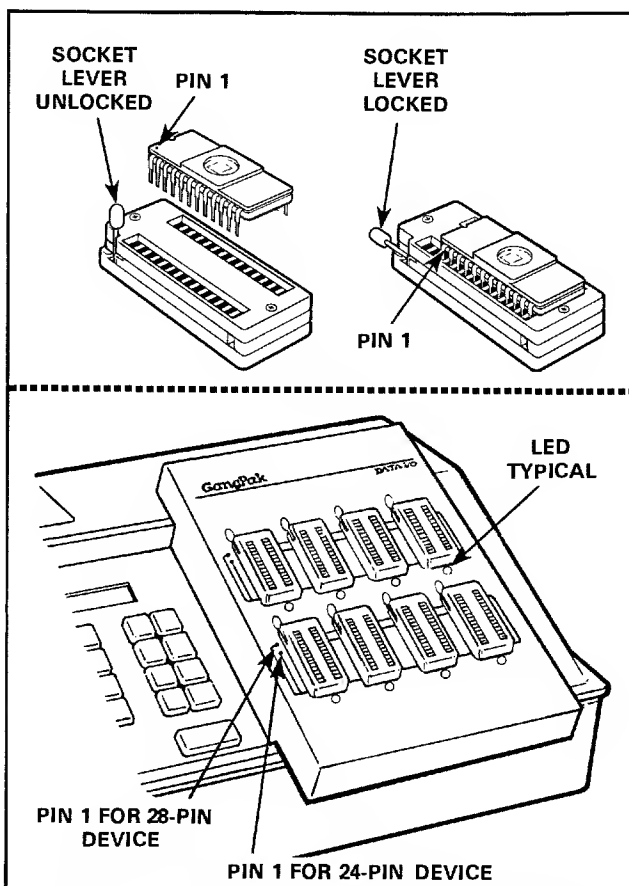

Figure 3-2. Device Installation (Multiuse Sockets)
3. Lift the lever on the side of the socket (see figure 3-2). The lever stays in the upright position.
4. Gently set the device in the socket. Be sure that pin 1 of the device is aligned with pin 1 of the socket as shown in Figure 3-2. If the socket has more contacts than the device has pins, insert the device so that the extra contacts are above the device; i.e., the bottom pins of the device must mate with the bottom pins of the socket.
2. Lift the lever on the side of the socket (see figure 3-2). The lever stays in the upright position.